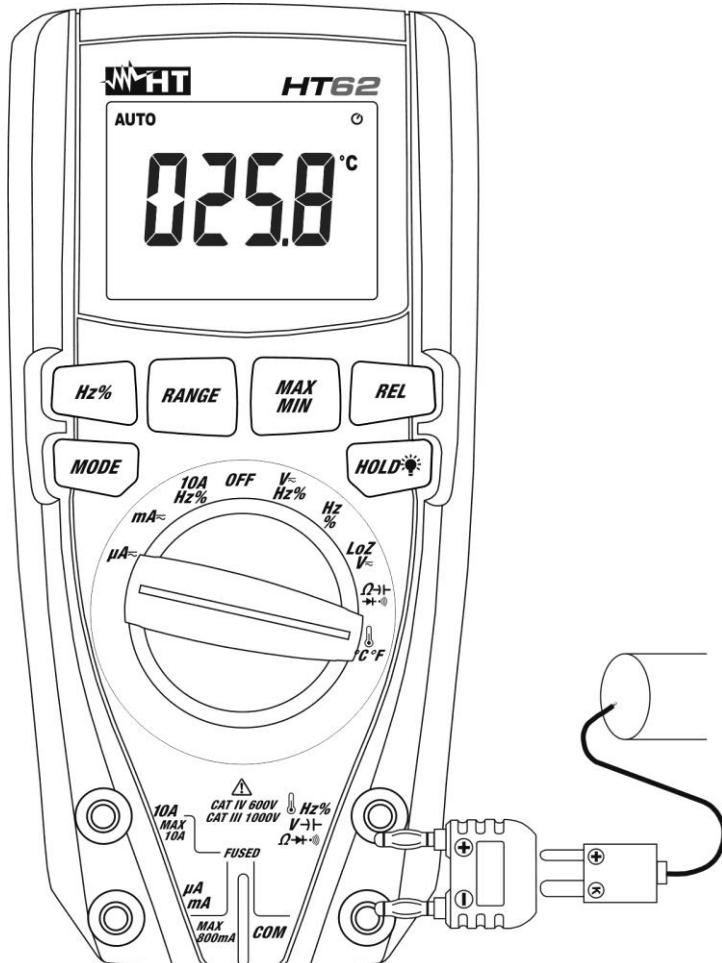

Fig. 9: Use of the instrument for Temperature measurement
3. Insert the provided adapter into input terminals  $\text{Hz\%} \rightarrow \text{V\%} \rightarrow \Omega \rightarrow \cdot$  (polarity +) and **COM** (polarity -) (see Fig. 9)